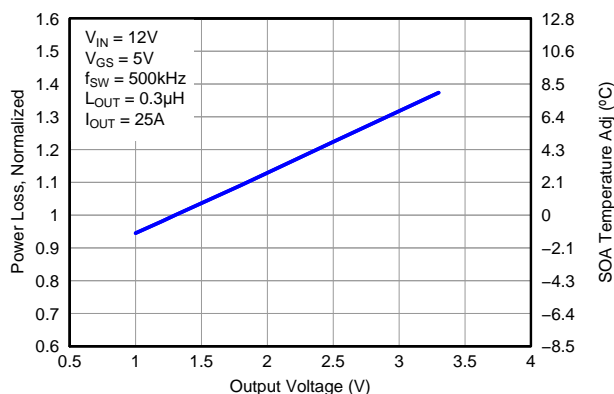

Figure 8. Normalized Power Loss vs. Output Voltage
- Normalized Power Loss for output voltage  $\approx 0.95$  (Figure 8)
- SOA adjustment for output voltage  $\approx -1.05^\circ\text{C}$  (Figure 8)